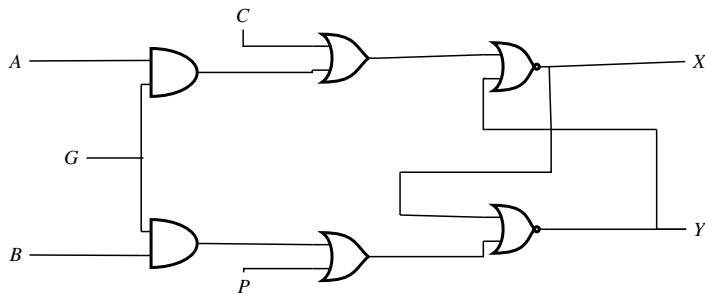

Fig. 5.35
40. For the following circuit Fig. 5.35, the correct logic values for the entries X_2 and Y_2 in the truth table in Table 5.2 are